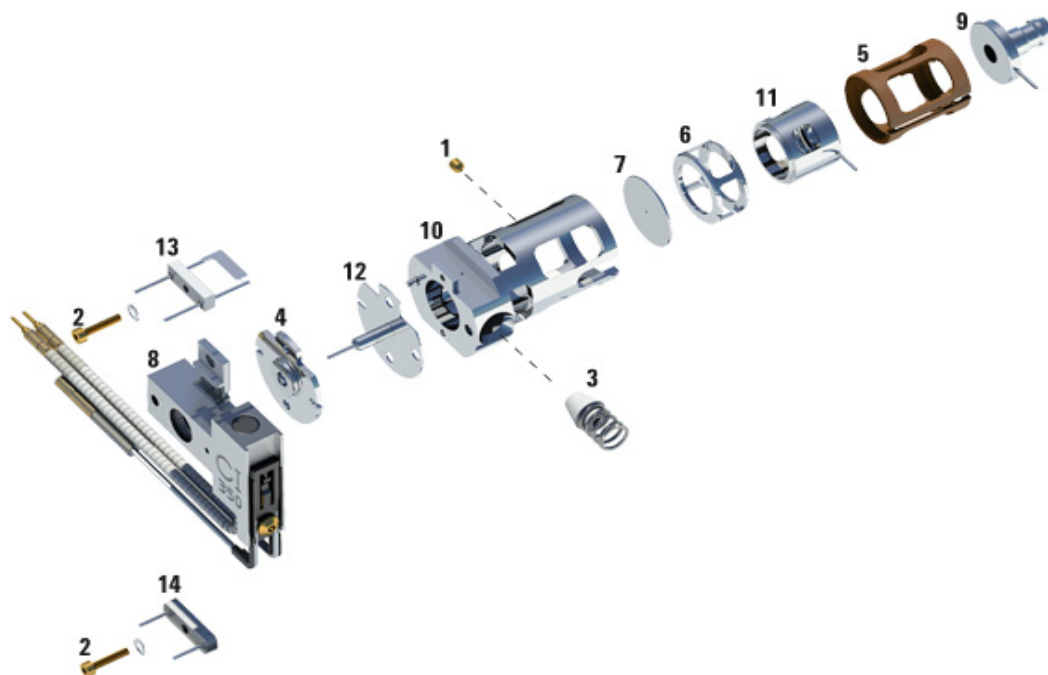

Figure 30 Assembling the CI ion source
- 1 Assemble the ion focus lens, entrance lens, and lens insulator (Figure 30).
- 2 Slide the drawout plate and the drawout cylinder into the source body (Figure 30).
Table 21 Parts list for the CI ion source (Figure 30)
Table 21 Parts list for the CI ion source (Figure 30) (continued)